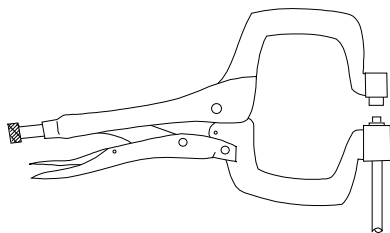

Figure 4.3C
2. Apply pressure with T-109 until the hex and drive ferrules are tightly seated (See Figure 4.3C).